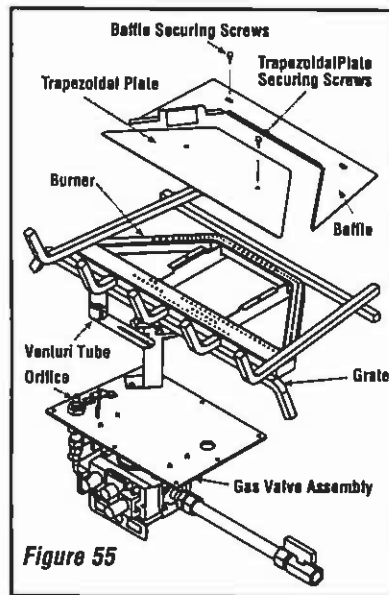

Figure 55
Step 3. Refer to *Figure 55*.
Step 8. (Refer to *Figure 55* on page 27)